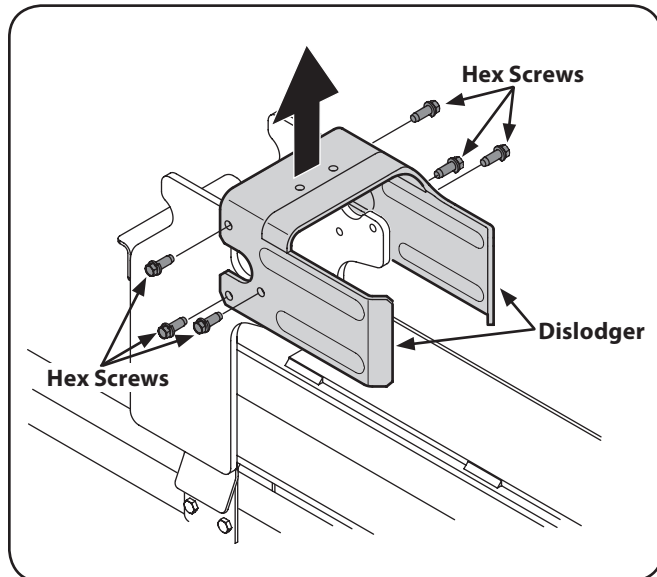

Figure 3-4
2. Disconnect the disloder from the beam weld bracket by removing the six hex washer head screws. See Fig. 3-4.